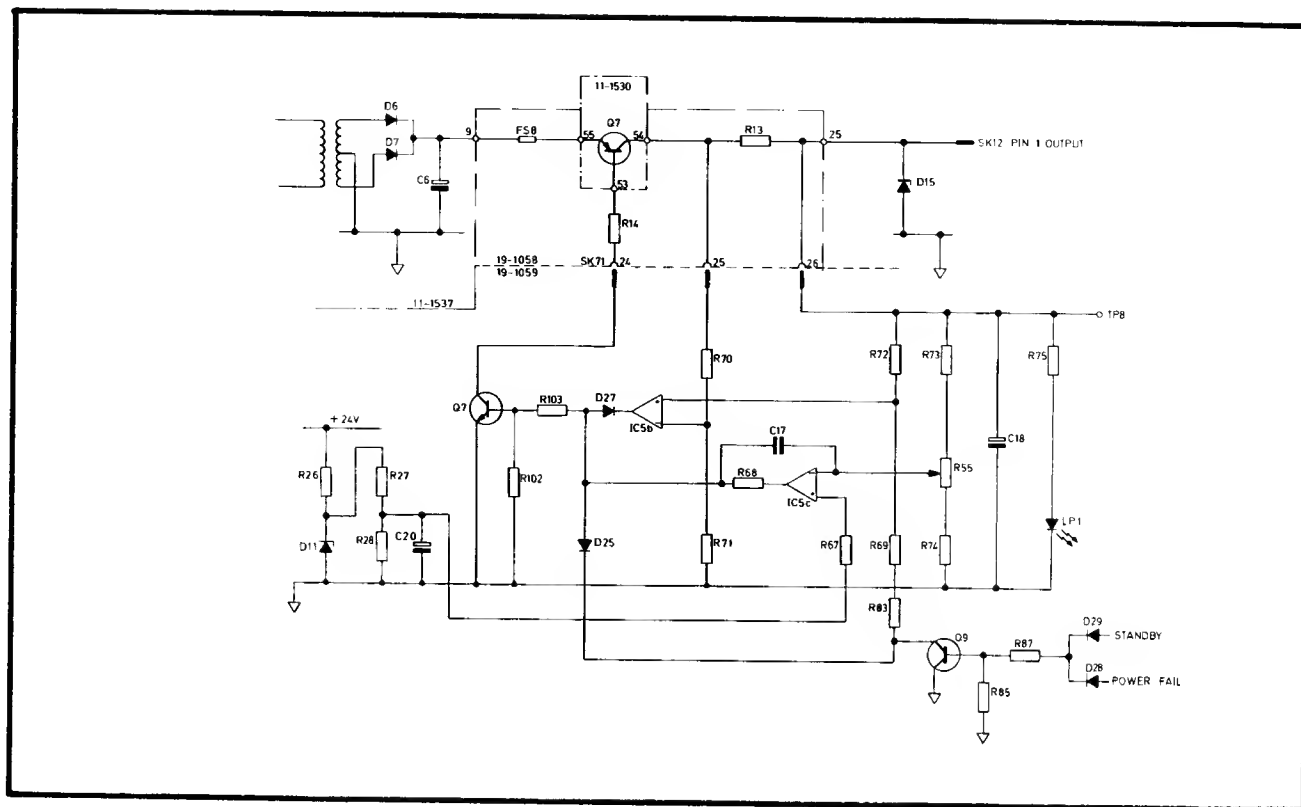

Fig. 6.11 The +5 V (A) Power Supply
6.5.13.2.1 The +5 V (A) supply is typical of the supplies having discrete component regulators. The circuit diagram is given in Fig. 6.11.